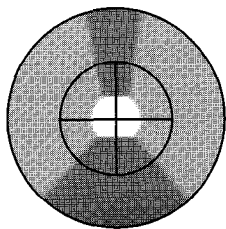

Fig. 18-D'
11. After making sure that the degree of blurring of one arc image is equal to that of the other arc image (the focusing positions of two arc images are identical), overlay the two arc images using the burner centering knobs ④ under in-focus condition.
12. After the two arc images are overlaid, they appear as shown in Fig. 18-D'. This completes the burner centering adjustment.